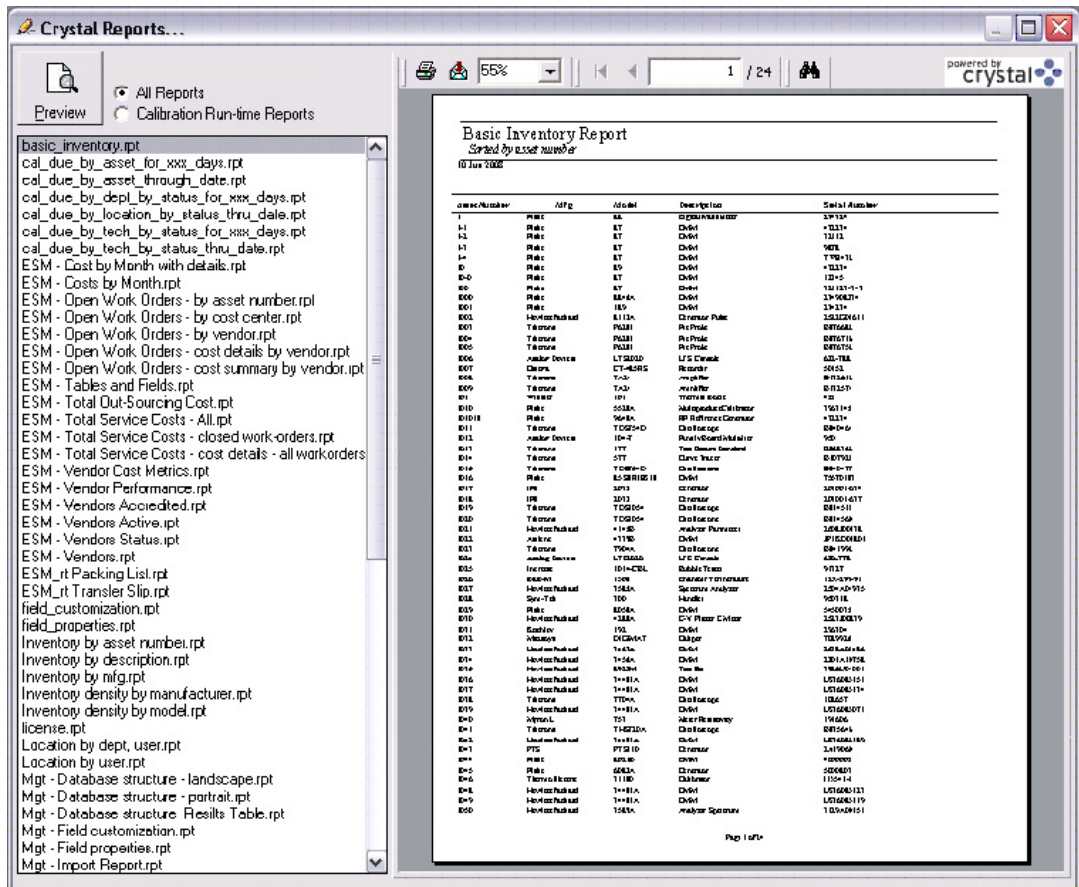

Figure 25. Crystal Reports
4. Push **Enter** or click the **Preview** button. Once a report shows in the right panel, it is ready to print or export, see Figure 25.